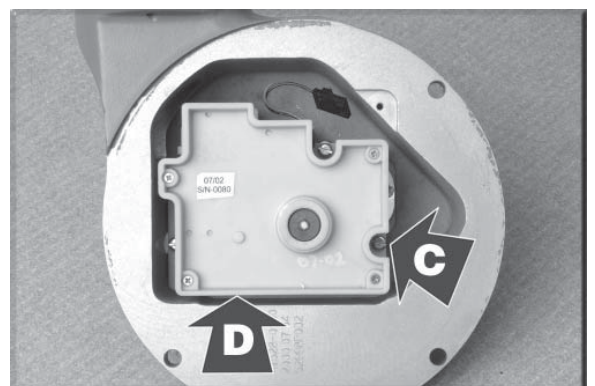

Fig. 3 Installing New Register
- Install new white register (Fig. 3 "D") into register cover and secure with three M3 pan head screws (Fig. 3 "C"), p/n 52620P003 using Quick-Wedge® No. 1734 04241 screw starter (Or Similar).